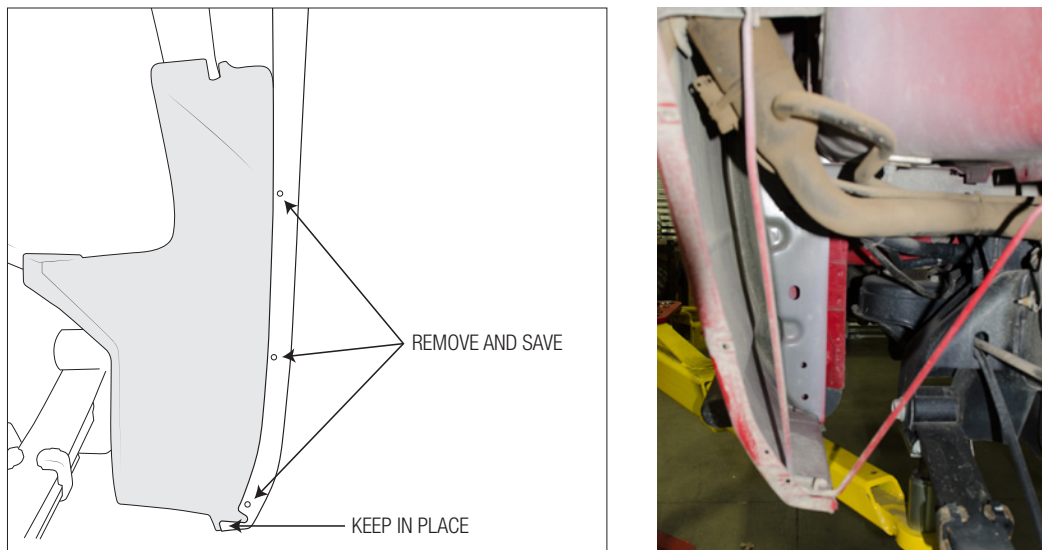

Figure 2 Remove plastic support and metal support rods
4. Remove and save the U-nuts along the edge of the plastic support, the bottom most U-nut may remain in place (fig. 2).
5. Remove the metal support rods and save. Save all hardware (fig. 2).